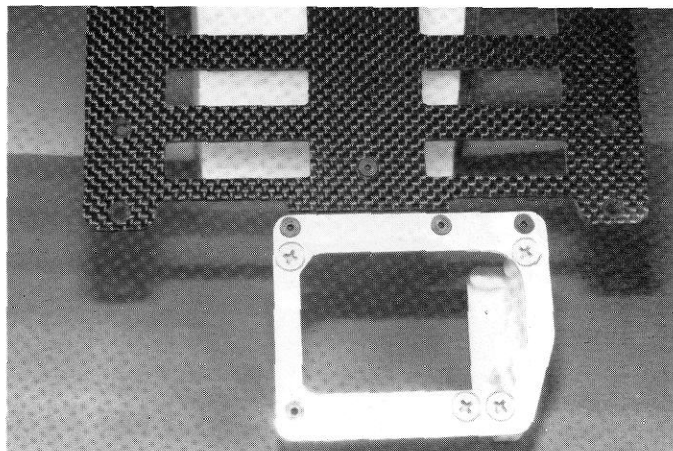

Fig. 29
□ **Fig. 29**— The bottom side of the car should look like this now.